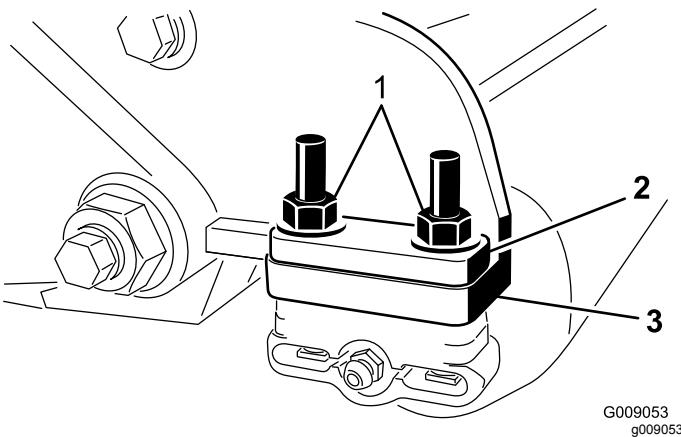

Figure 7
6. Remove the 2 flange locknuts securing each roller bracket to the side-plates (Figure 7). Do not remove the bolts. **Also, remove any 6 mm (1/4 inch) spacers from the top side of the side-plate mounting flange.**